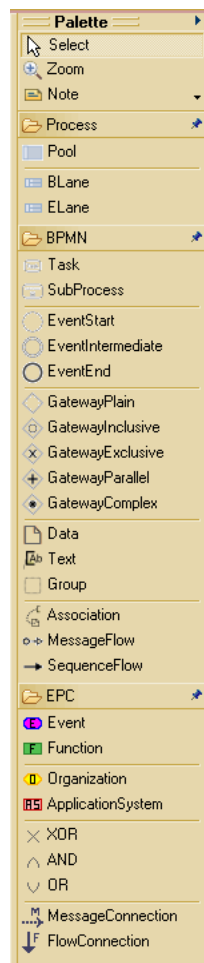

Figure 4. Process view palette
**Step 2.** Next step is to create a pool object. For that you will need to choose the pool element from the process view palette (see Figure 4) and click-and-drag draw the pool on the diagram canvas. You can change the pool's name by double-clicking on its label and entering a new name, for example **Statoil Product Optimization**.